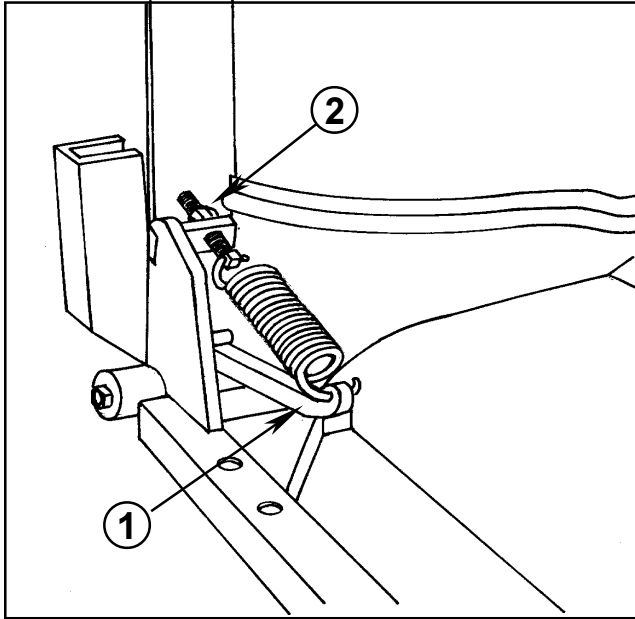

FIG 1.
2. If the boom extension releases too easily the tension can be increased by tightening the nut. See FIG. 1